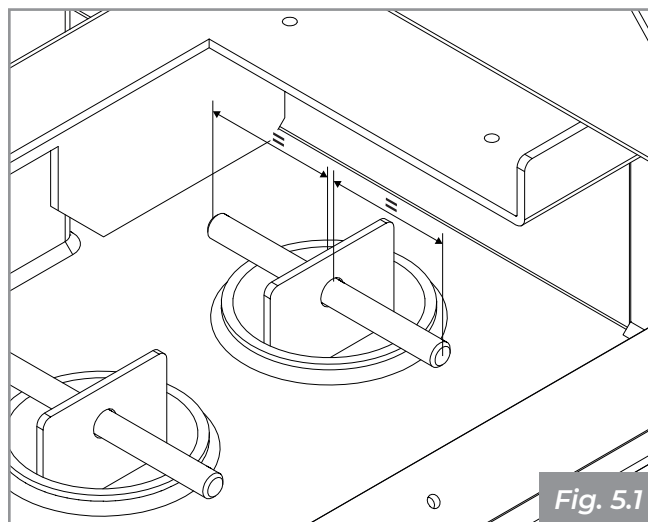

Fig. 5.1
- check the correct positioning of the plugs on the turbulators (**Fig. 5.1**) and fume deflectors;